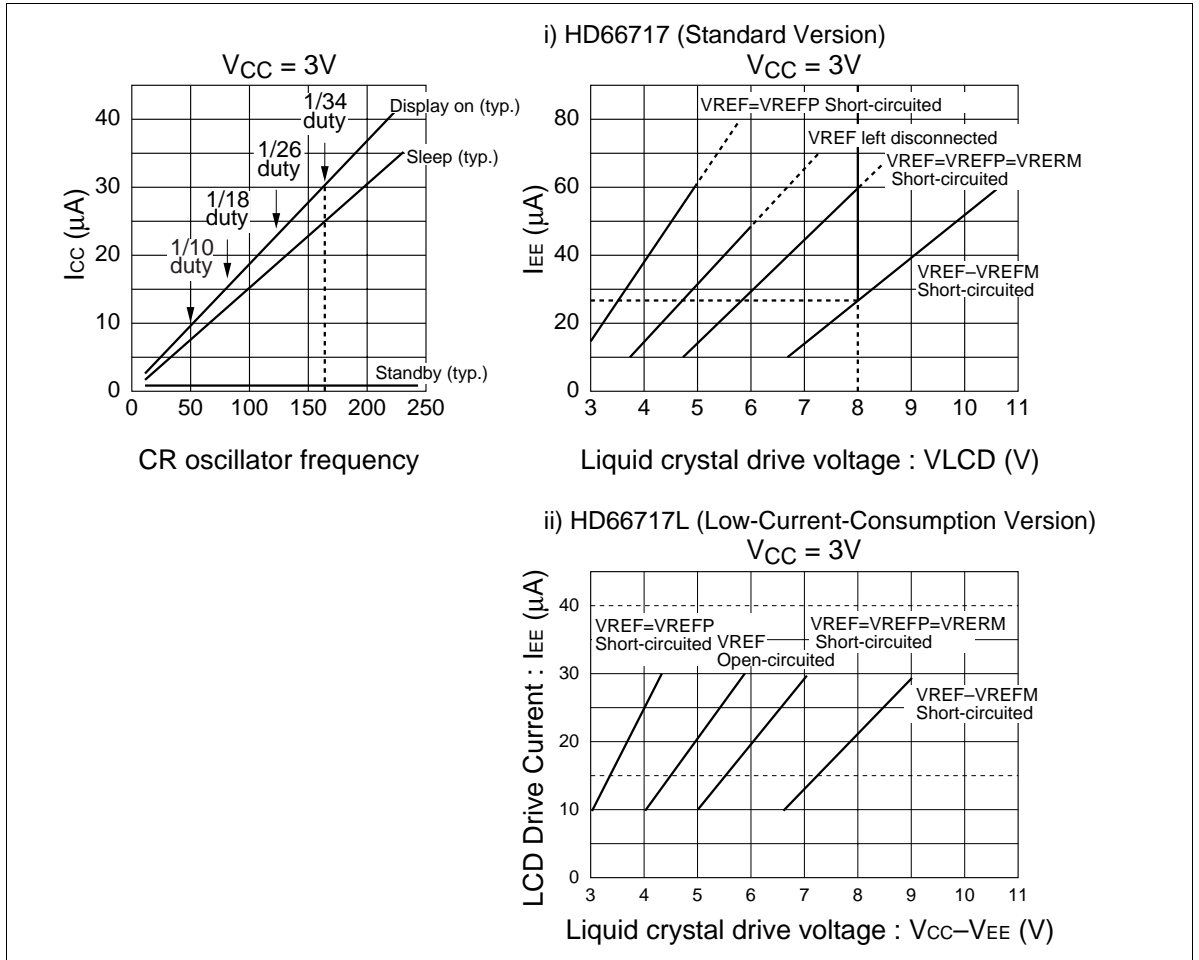

Figure 47 Relationship between the Operation Frequency and Current Consumption
11. The following shows the relationship between the operation frequency (f_{OSC}) and current consumption (I_{CC}) (Figure 47). The HD66717 is a normal current-consumption version, and the HD66717L is a low current-consumption version in the LCD power supply.